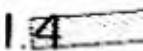

Fig. 70
3. The Needle should protrude into the f1.4 mark. See Fig. 70.